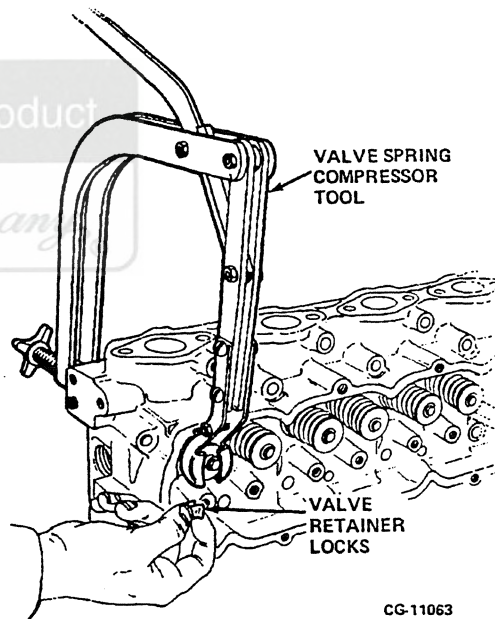

Figure 3.22. Removing Valve Retainer Locks
- a. Using valve spring compressor tool ZTSE-1846 (Figure 3.22) compress the valve springs.